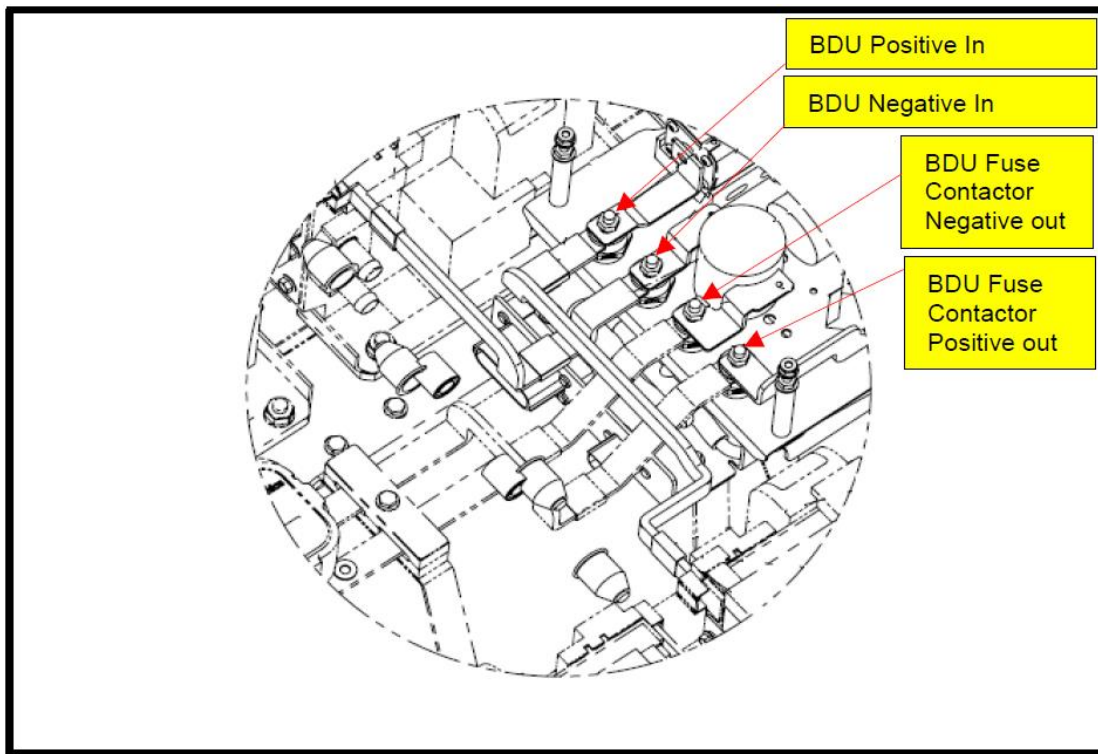

Figure 4: BDU and contactor location reference
- 1.13 Confirm that **NO** voltage is present between the positive out terminal on the BDU contactor and negative out terminal on the BDU contactor. See Figure 4.